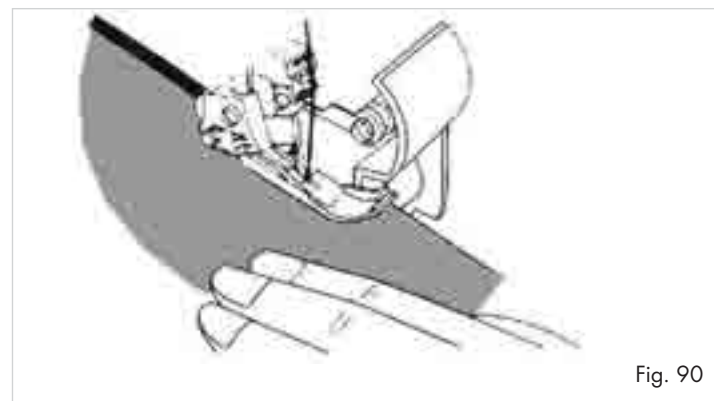

Fig. 90
- Sew the seam and while doing this cut away the excess fabric (Fig. 90).